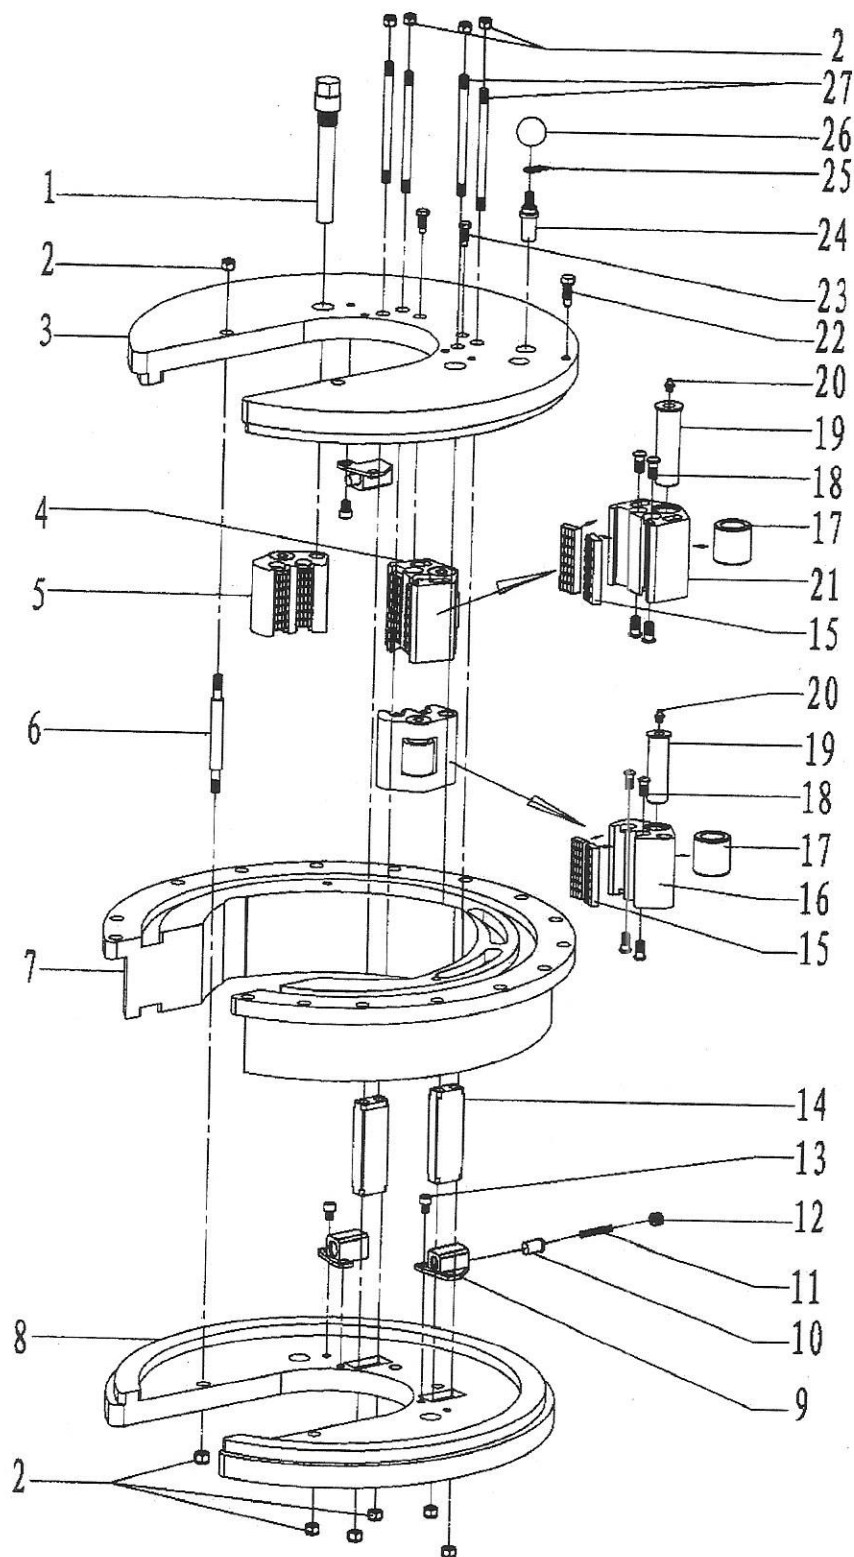

Fig. 22
19.Backup Tong Transmission assembly (Fig 22, Table 19)